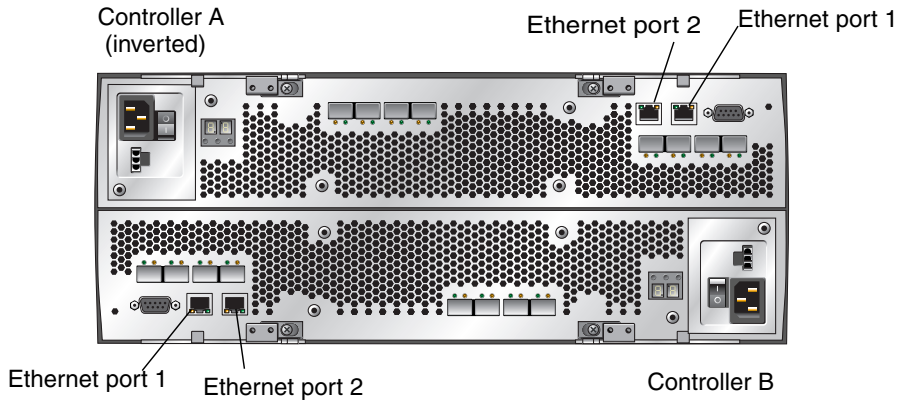

FIGURE 3-1 Ethernet Ports for Controller A and Controller B
The management host directly manages Sun StorageTek 6540 Arrays over an out-of-band network. This section describes how to set up a connection between the Ethernet port of a controller (FIGURE 3-1) and the management host.
1. **Locate the Ethernet port 1 for Controller A and Controller B at the back of the controller tray (FIGURE 3-1).**
1. **Locate Ethernet port 1 on Controller A and Controller B at the back of the controller tray (FIGURE 3-1).**
1. **Locate Ethernet port 1 on either Controller A or Controller B at the back of the controller tray (FIGURE 3-1).**